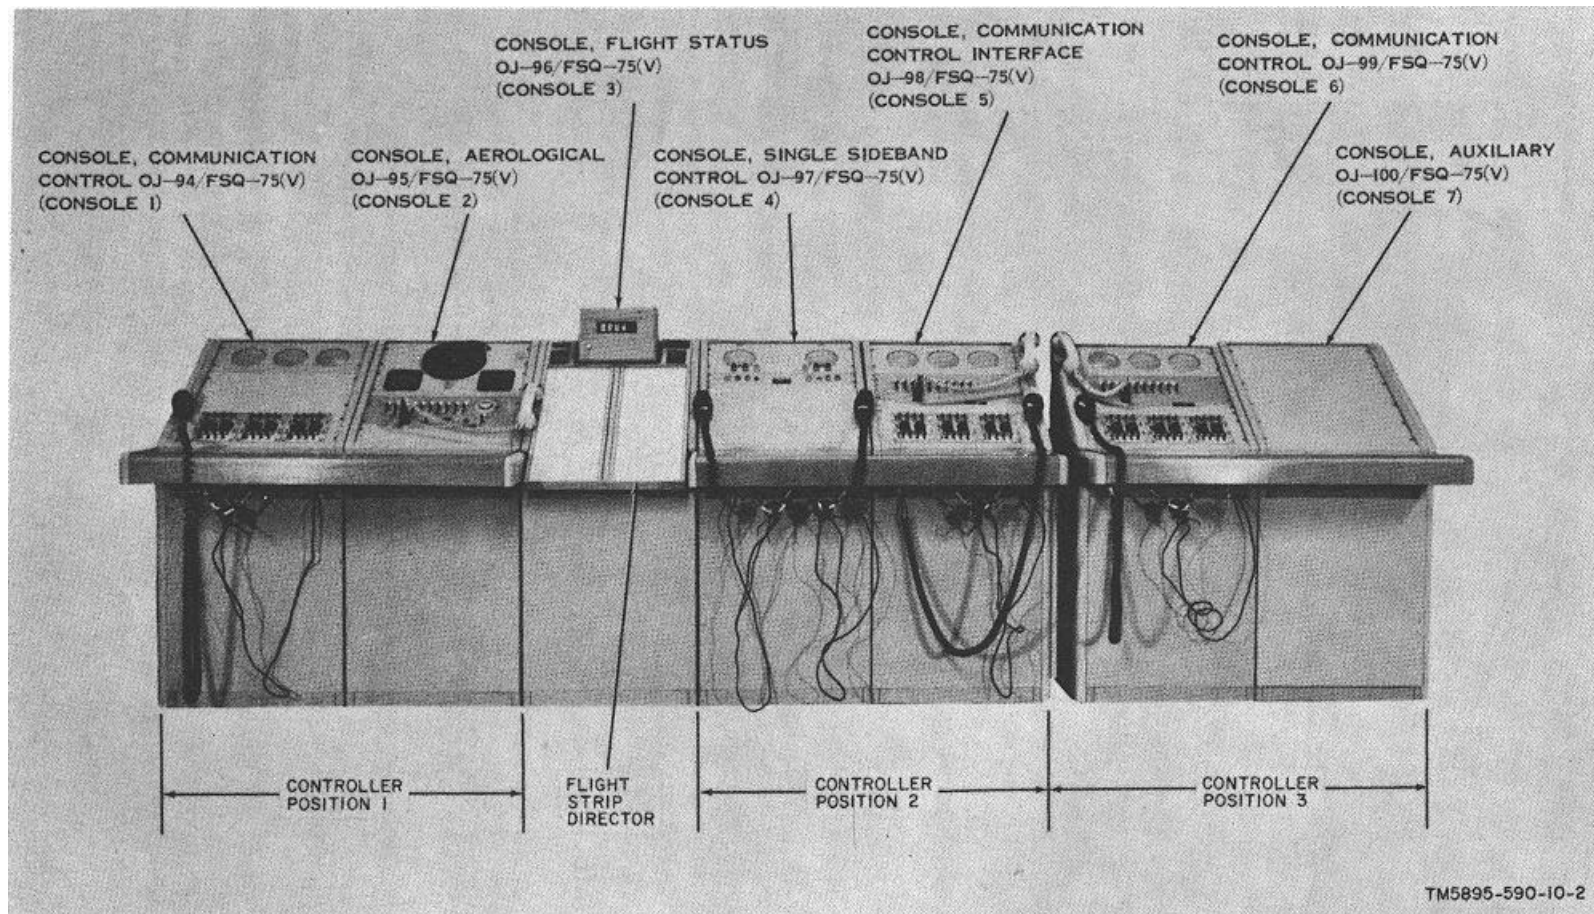
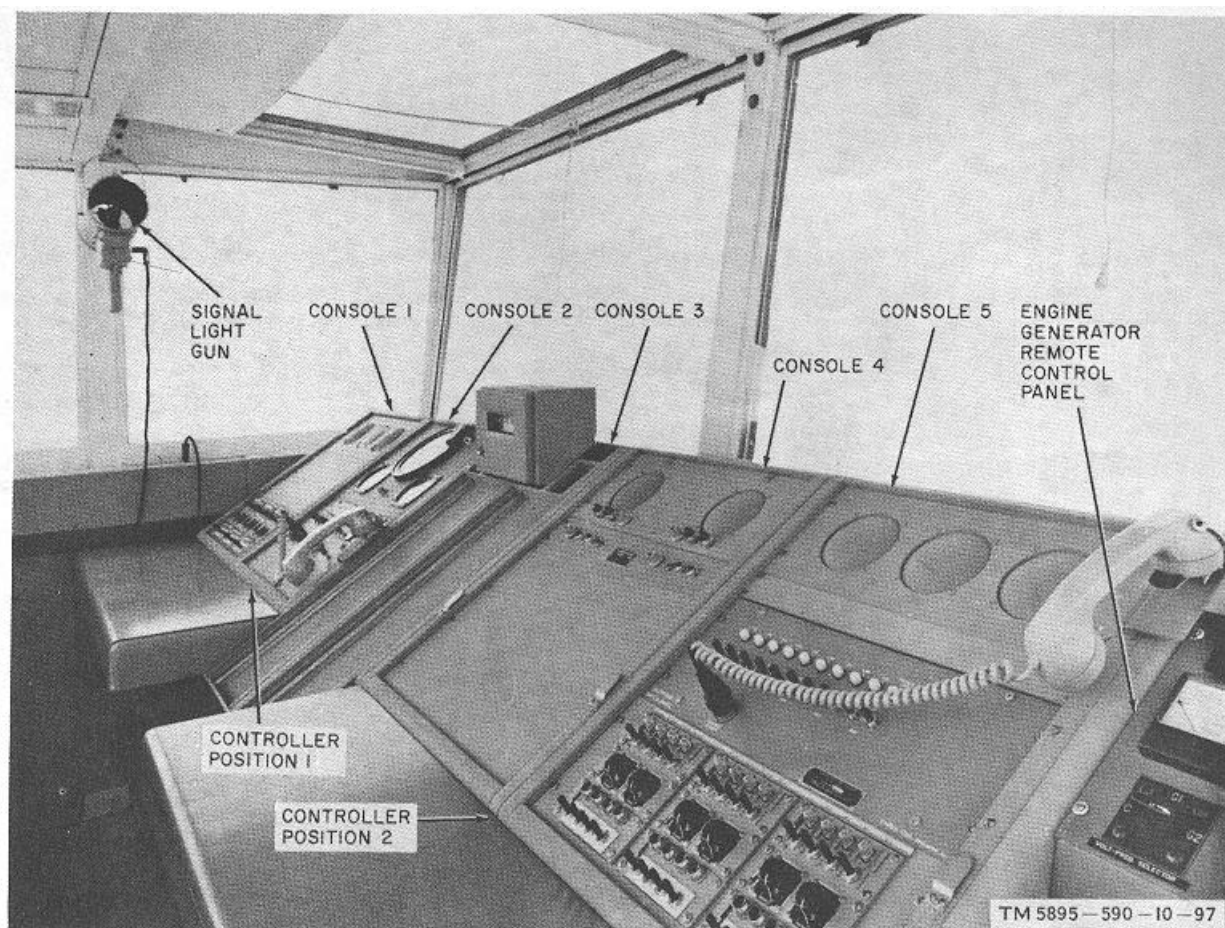

Figure 1-2. Console Group, Air Traffic Control OJ-7(V)1/FSQ-75(V).
Figure 1-3. Console Group, Air Traffic Control OJ-67(V)S/FSQ-75(V)
b. Figure 1-2 shows the control consoles that are provided with the AN/FSQ-75(V)1 and the AN/FSQ-75(V)2 and are located in the control towers. Figure 1-3 shows the consoles furnished with the AN/FSQ-75(V)3 mounted in the control tower cab. The consoles are identical; however, consoles 1 through 7 are provided with the AN/FSQ-75(V)1 and AN/FSQ-75(V)2, and only consoles 1 through 5 are provided with the AN/FSQ-
consoles (five consoles in the OJ-67(V)2/ FSQ-75(V)). Additional components included in the console group, such as the light gun and reel, the alarm/pa system and test fixtures, are located in the control tower but are external to the consoles. When installed together, the seven consoles included in the OJ-67(V)1/FSQ-75(V) provide three aircraft controller operating positions (fig. 1-2). The five consoles included in the OJ-67(V)2/ FSQ-75(V) provide two aircraft controller positions (fig. 1-3).
a. *Individual Consoles* (fig. 1-2 and 1-3). The equipment configuration of each console varies, depending on the function of the specific console, and is detailed in (1) through (7) below. The equipment included in the individual consoles is identical for both the OJ-67(V)1/FSQ-75(V) and the OJ-67(V)2/FSQ-75(V). Detachable writing shelves mount along the console fronts. Console 1 provides the controller at position 1 with control and monitoring capability for the 12 vhf and uhf communication channels. Console 2 provides aerological data for all controllers, and access to the connecting group through the master switch panel. This panel has dial line access and alarm features not available on the telephone switch panels located on consoles 5 and 6. Console 3 furnishes a time-of-day display and houses a flight progress director used to record and update information pertaining to aircraft arrivals and departures. This equipment is for use by all controllers. Consoles 4 and 5 form controller position 2. Console 4 provides the capability for control and monitoring of the two single sideband communication channels and monitoring capability for the operational status of the recorder and lf receiver. Console 5 provides the position 2 controller with control and monitoring capability for the 12 vhf and uhf communication channels, as well as access to the connecting group through the auxiliary telephone switch panel. A demarcation panel on this console serves as an interface point for all control and monitoring lines between the control tower and the equipment shelter. Consoles 6 and 7 form controller position 3. Console 6 provides the controller at position 3 with control and
(1) *Console, Communication Control OJ-94/FSQ-75(V)* (fig. 1-2). The OJ-94/ FSQ-75(V) consists of Cabinet, Electrical Equipment CY-6463/FSQ-75(V) which contains, on its sloping face, a transmitter-receiver volume control panel, (fig. 3-1) that contains three Selectors, Channel-Headphone-Speaker SA-1610/FSQ-75(V), three Controls, Receiver Volume C-7684/FSQ-75(V), and three Frequency Selectors, Transmitter SA-1609/ FSQ-75(V). Also mounted on the top panel is Speaker Assembly LS-563/FSQ-75(V) Panel. Microphone-Headset SB-3188/FSQ-75(V) is mounted directly below the writing ledge. Telephone Switch Panel, Common Equipment TA-794/FCA-17, Amplifier Group, Audio Frequency OG-72/FSQ-75(V), Buzzer BZ-166/FSQ-75(V), and three Transformer, Voltage, Step-Up TF 53/FSQ-75(V) units are mounted internally. They can be reached through the rear of the console or the removable front panel. Inter-cabinet cabling terminates at a jack panel on the cabinet side.
(2) *Console, Aerological OJ-95/FSQ-75(V)* (fig. 1-2). The OJ-95/FSQ-75(V) consists of Cabinet, Electrical Equipment CY-6464/FSQ-75(V) which houses the indicator panel of Aerological Measuring Set ML-629/ FSQ-75(V) (fig. 3-2) and Telephone Switch Panel, Master TA-792/FCA-17 on the sloping front panel. Three Controllers, Channel Selector C-7685/FSQ-75(V) and Amplifier Group, Audio Frequency OG-73/FSQ-75(V) are mounted internally. Inter-cabinet cabling terminates at a jack panel on each side of the cabinet.
(3) *Console, Flight Status OJ-96/FSQ-75(V)* (fig. 1-2). The OJ-96/FSQ-75(V) consists of Cabinet, Electrical Equipment CY-6465/FSQ-75(V) which contains Clock, Direct Reading MX-090/FSQ-75(V) and a flight-progress director on its sloping front panel. Three Panels, Power Distribution SB
(4) *Console, Single Sideband Control OJ-97/FSQ-75(V)* (fig. 1-2). The OJ-97/FSQ-75(V) consists of Cabinet, Electrical Equipment CY-6466/FSQ-75(V) which houses Loudspeaker Assembly LS-565/FSQ-75(V) and Monitor-Indicator, Recorder, Receiver ID-1570/FSQ-75(V) on its sloping face, and Panel, Microphone-Headset SB-3187/FSQ-75(V) on its front just below the writing ledge. Three Controllers, Channel Selector C-7685/FSQ-75(V), and Power Supply PP-6046/FSQ-75(V) are mounted internally. Inter-cabinet cabling terminates at jack panels on both sides of the cabinet.
(5) *Console, Communication-Control Interface OJ-98/FSQ-75(V)* (fig. 1-2). The sloping top of the OJ-98/FSQ-75(V) (made up of Cabinet, Electrical Equipment CY-6467/FSQ-75(V)) contains the same units as the OJ-94/FSQ-75(V) with the addition of Telephone Switch Panel, Auxiliary TA-793/ FCA-17. Panel, Microphone-Headset SB-3188/FSQ-75(V) is mounted on the front directly below the writing ledge. Panel, Transformer-Impedance Matching SB-3197/FSQ-75(V), Amplifier Group, Audio Frequency OG-72/FSQ-75 (V), Buzzer BZ-166/FSQ-75(V), and three Transformers, Voltage, Step-Up TF-553/FSQ-75 (V) are mounted internally. Inter-cabinet cabling terminates at a demarcation panel on the cabinet side. In the AN/FSQ-75(V)3 only, the engine generator remote control panel is bolted to the side of console 5 (fig. 14).
(6) *Console, Communication Control OJ-99/FSQ-75(V)* (fig. 1-2). The sloping front of OJ-
(7) *Console, Auxiliary OJ-100/FSQ-75(V)* (fig. 1-2). The OJ-100/FSQ-75(V) (made up of Cabinet, Electrical Equipment CY-6469/FSQ-75(V)) has no controls on its sloping front panel. It houses three Controllers, Channel Selector C-7685/FSQ-75(V). Inter-cabinet cabling terminates at a jack panel on one side of the console. Intra-cabinet cabling enters console 7 through a cutout in the bottom of the console rear cover.